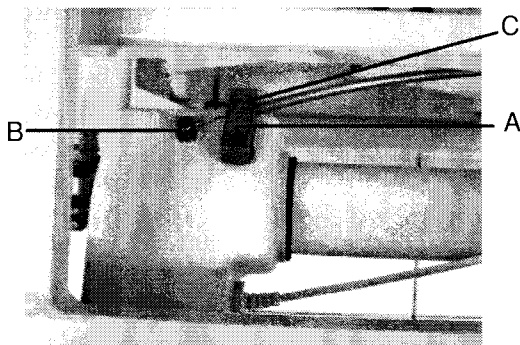

Figure 1 1232A118.tif
- 6 With the adjustable wrench, operate the release bracket (A) of the Head Section motor (refer to figure 1) so as to free the end ball of the cable at the release handle.
- 9 Free the cable from the cable stop (B) (refer to figure 1).
- 10 Pull the cable sleeve in order to remove the release bracket assembly (A) (refer to figure 1).
- 11 Recover the sleeve stop (C) (refer to figure 1).